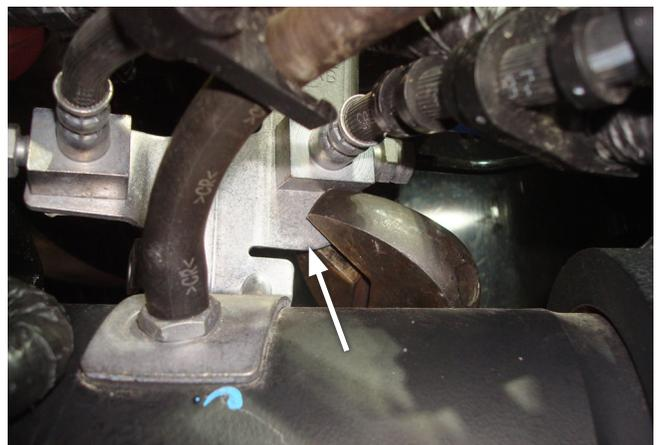

Fig. 27
3. Make clearance for the lower air spring roll plate by bending the upper Brake line/ABS harness/vent tube bracket. Hold the bottom of the bracket by using an adjustable wrench to make the bend (Fig. 27). Bend the top of the bracket back and down using another adjustable wrench (Figs. 28 & 29).